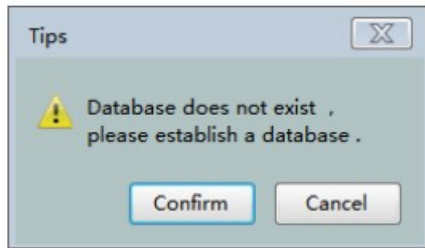
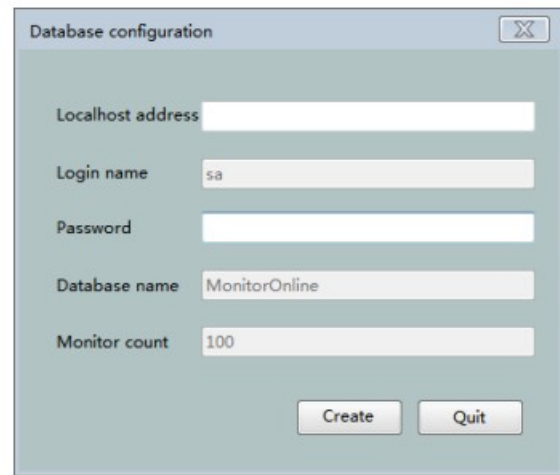

Fig.2.5 Tips
Fig.2.6 Database Configuration
**Step 2:** Input MNU IP address (IP address of NMU card ), Localhost address (Computer IP of installing database), Login name (Default as “sa” ) and Login password ( password set when installing the database) of database, and click “confirm” button In Fig.2.4.If the database is existent and the connection is successful, then user can log in to the system. If the database does not existand the connection is unsuccessful, the interface of establishing a database will pop up (see Fig.2.6).
**Step 3:** Please click “Confirm” button in Fig.2.5, then the interface of database configuration will pop up as shown in Fig.2.6.
**Step 4:** Input Localhost address (Computer IP of installing database) and Login password ( password set when installing the database) of database, and click “Create” button In Fig.2.6 to create database, after creating database, the interface of “Submit success” will pop up, and click “OK” button, then the database connection interface will pop up as shown in Fig.2.4. The other steps are same with Step 2, complete the database connection and user login operation, you can log in the system.